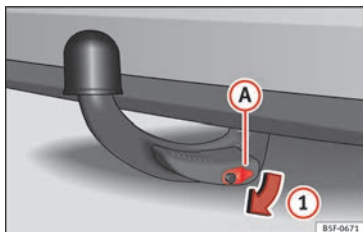

Fig. 233 Removing the lock cover
- Remove cover **(A)** from the lock in the direction of arrow **(1)** » Fig. 233.